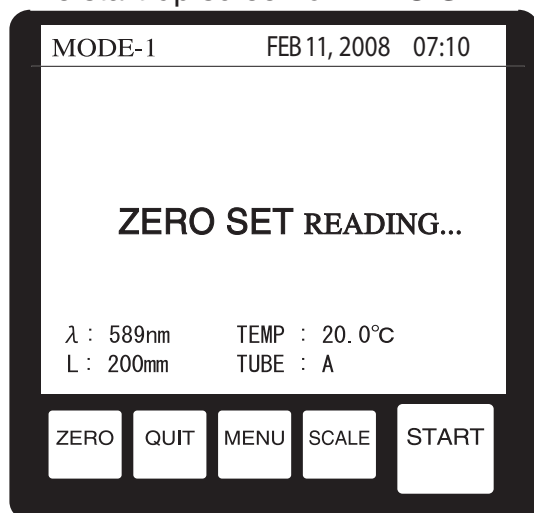
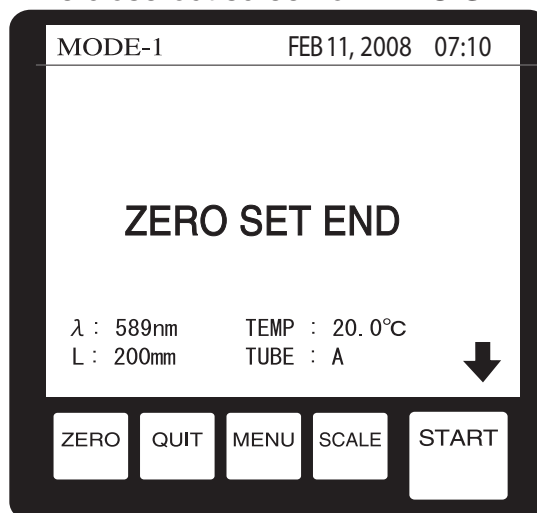

Fig.6-5
Fig.6-6
(3) ZERO SET screen (Fig.6-5, Fig.6-6)